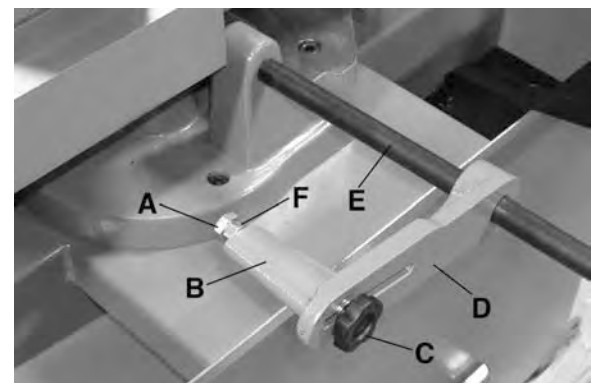

FIGURE 14
The stock advance stop Fig.14 is used mainly when more than one piece of work is to be cut to the same length. Simply position the stop bolt (A) Fig.14 to the desired distance away from the blade.